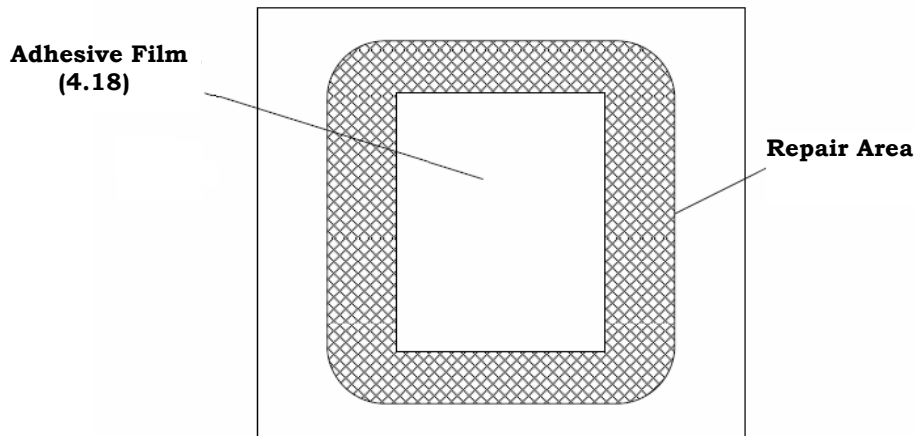

FIGURE 8: ADHESIVE FILM PLACED ON REPAIR AREA
6.2.3.2 Remove the mold release film (non porous) from the repair area and apply an adhesive film (Table 1) to the repair area not covering a whole area, according indicated in the Figure 8.